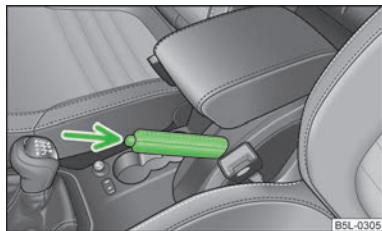

Fig. 96
- Pull the handbrake lever up slightly and **at the same time** push in the locking button » Fig. 96.